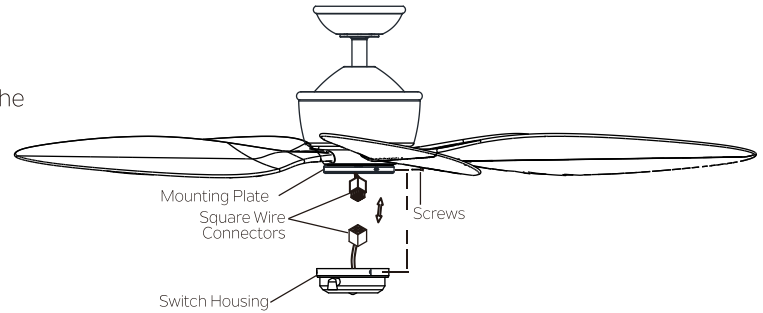

Fig. 16
Step 1. While holding the switch housing under your ceiling fan, push the square wire connectors together. One from the fan and one from the switch housing. (Fig.16)
Step 2. Carefully push all the wires into the switch housing. Attach the switch housing to the mounting plate with the screws provided. Make sure each screw is tight. (Fig. 16)